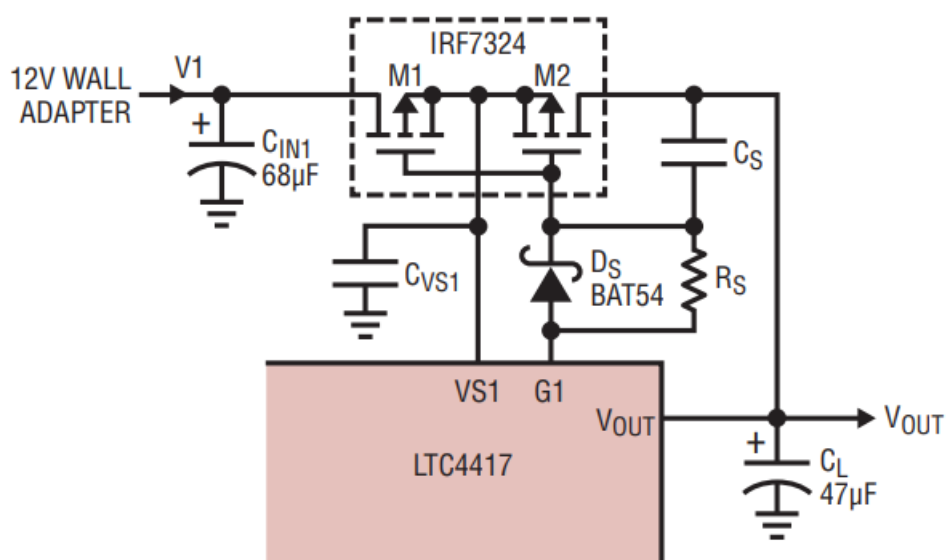

Figure 1
- The other driving mode of the P-channel MOSFETs is used in the voltage switching operation, when the higher priority rail replaces the rail losing validity. The gate driver operates with a fixed current, which is defined by the external component parameters R_S and C_S shown in Figure 1. The LTC4417 circuit designer should select the value of R_S and C_S based on the MOSFET parameters, power rail source characteristics, acceptable output voltage droop during transient, and the value of load capacitance.